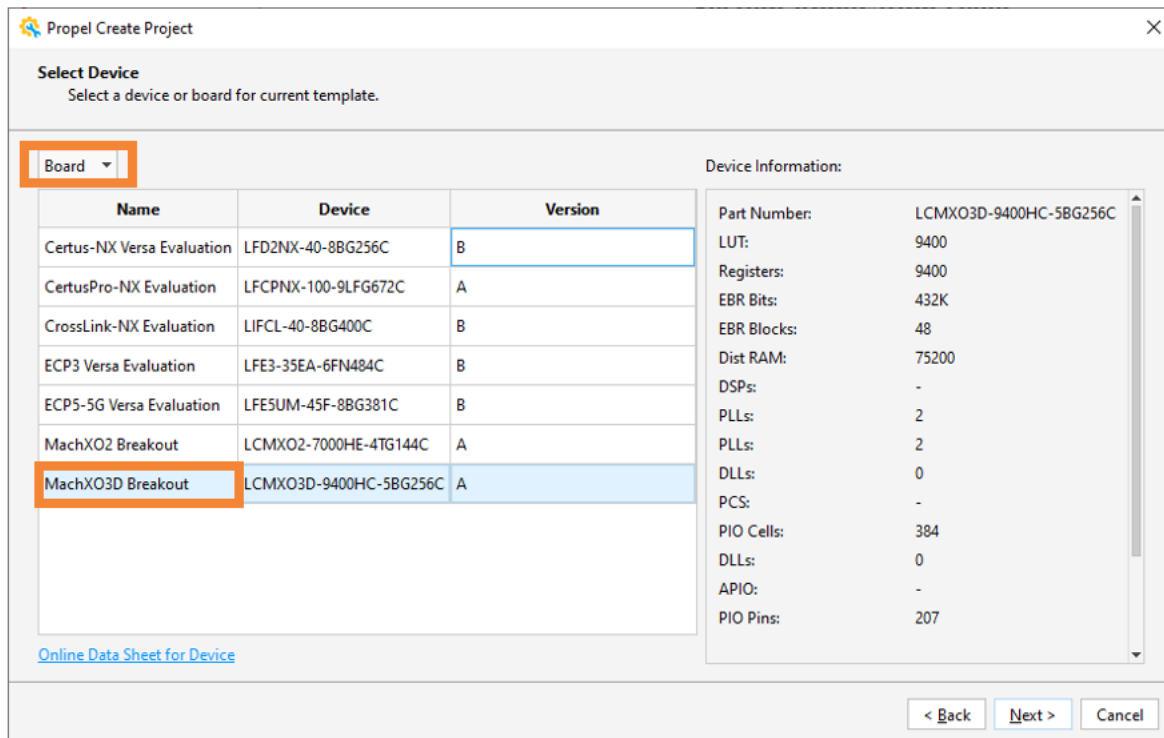

Figure 6.6. Selecting MachXO3D Breakout Board
4. Click **Next**. Use the **Board** filter and select MachXO3D Breakout (Figure 6.6).